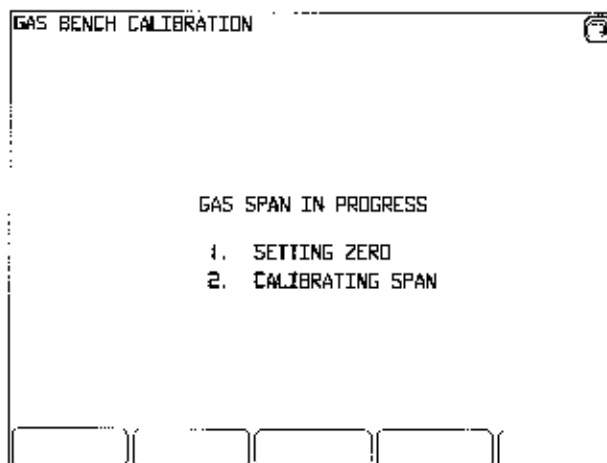

Figure 5-9
4. The screen will display a series of messages explaining what is happening during the automatic calibration process (see Figure 5-9). The gas analyzer then completes the gas calibration portion of this procedure.